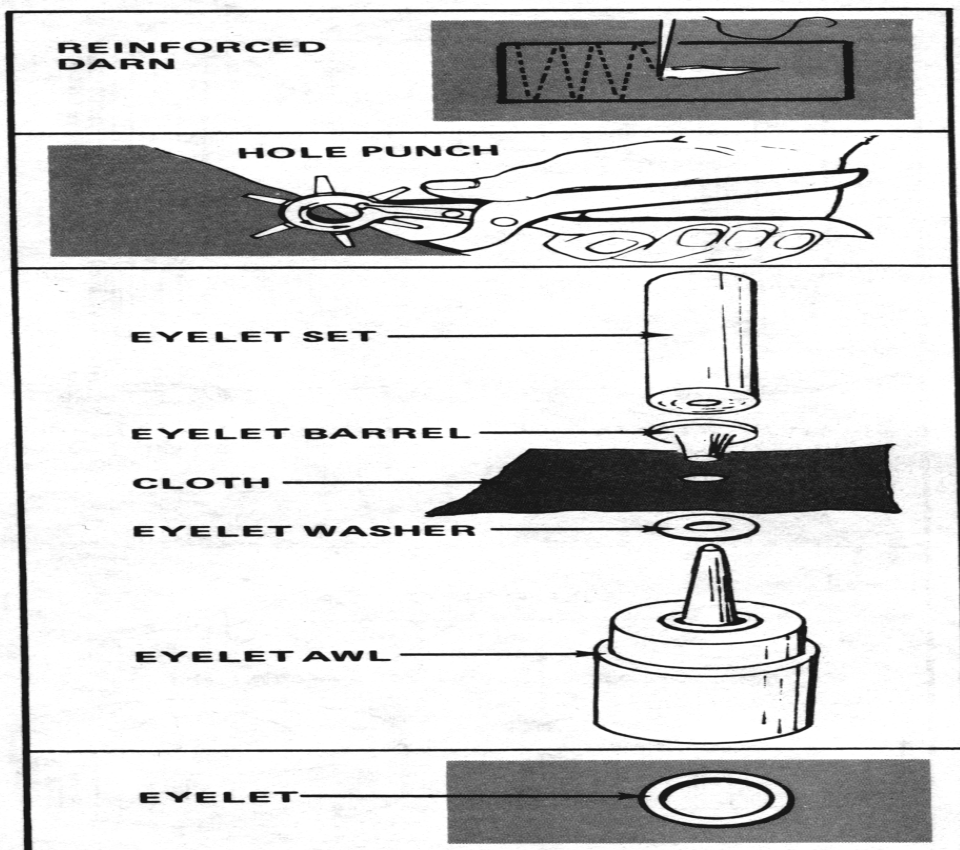

Figure 4-17. Replacing a metal eyelet
b. Replacing Metal Eyelets. To replace metal eyelets (Figure 4-17)--
- (1) Remove the defective eyelet by cutting it out with a pair or wire cutters. Do not cut the surrounding cloth.
- (2) Close the hole with a reinforced darn.
- (3) Obtain an eyelet the same type and color as the one removed.
- (4) Use a hole punch to make a new hole for the eyelet. Make the hole smaller than the eyelet barrel so that the eyelet will fit tightly.
- (5) Turn the cloth facedown. Insert the barrel of the eyelet down into the hole.
- (6) Place the washer on the awl.
- (7) Place the cloth facedown on the awl so that the barrel of the eyelet rests on the washer.
- (8) Position the eyelet set on the eyelet, and hold it in place.
- (9) Hit the top of the eyelet set with a mallet to set the eyelet in the cloth.